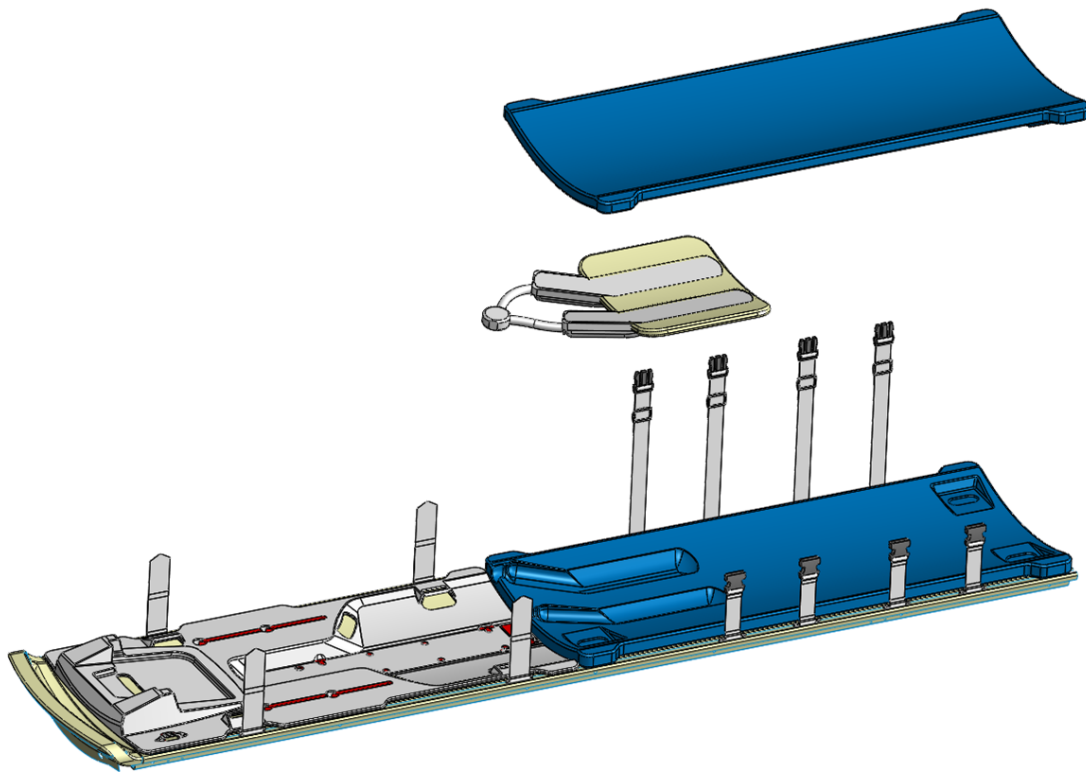

Figure 2: Securing the base plate and patient pad to the MRI bed
1. **MRI Technologist** Attach the base plate onto the foot end of the MRI table and secure using the four base plate straps (*Figure 2*, your configuration might not match exactly as shown). The feet of the base plate should fit in the rails of the MRI table and not move around when in position.
2. Place the patient pad on the MRI table and secure it using the provided straps shown in (*Figure 2*, your configuration might not match exactly as shown).
5.b.ii Preparing a Work Surface and Connecting the Positioning System (PS)